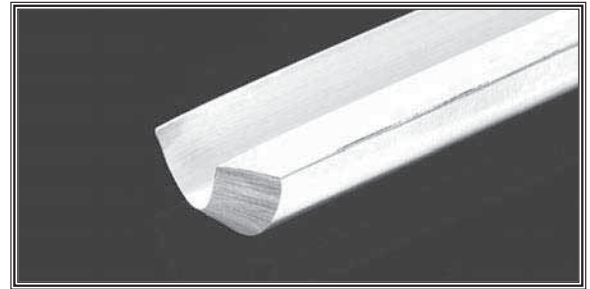

Figure 26. Gouge.
- **Gouges**—Mainly used for rough cutting, detail cutting, and cove profiles. The rough gouge is a hollow, double-ground tool with a round nose, and the detail gouge is a hollow, double-ground tool with either a round or pointed nose. **Figure 26** shows an example of a gouge.